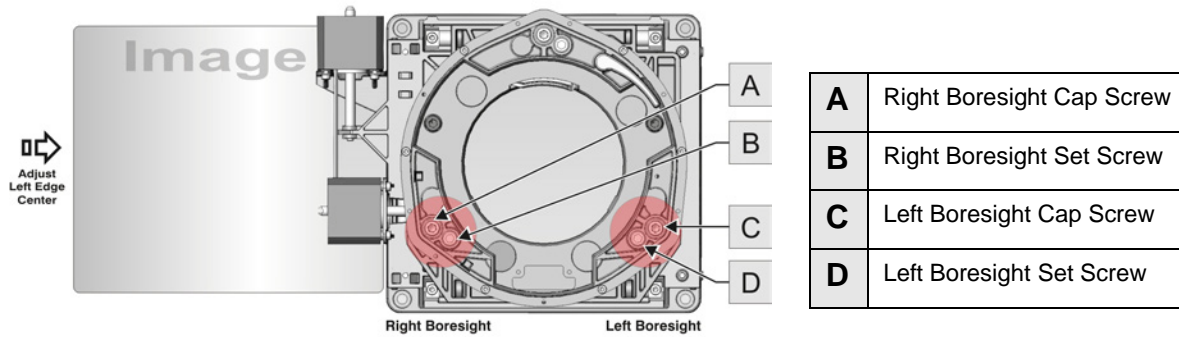

Figure 4-3 Left/Right Image Adjustment
6. Adjust both left and right horizontal adjusters by half the number of turns, in the **opposite direction** of the vertical adjust (Figure 4-3). For example, if the vertical adjust cap screws was turned 1/8 of a turn, the left and right horizontal cap screws should be turned 1/16 of a turn in the **opposite direction**.
- Loosen the right boresight set screw. (**Figure 4-3/B**).
- Turn the right adjust cap screw 1/16 of a turn clockwise (**Figure 4-3/A**).
- Adjust the left adjust cap screw equally in the opposite direction (**Figure 4-3/C**).